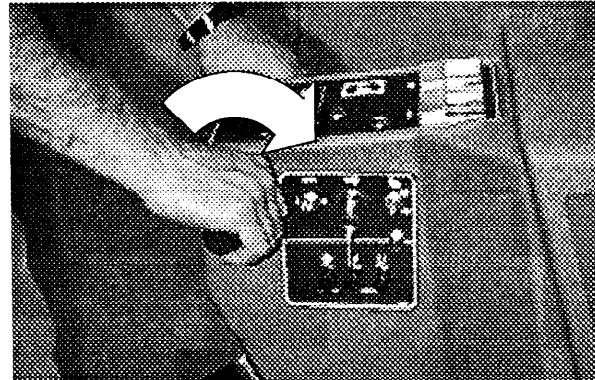

FIG. 13.
9. Twist control grips forward to begin scrubbing. Slow speed switch position only offers one speed. Fast speed switch position offers a variable speed. Twist grips all the way forward for maximum speed. (Figure 13)